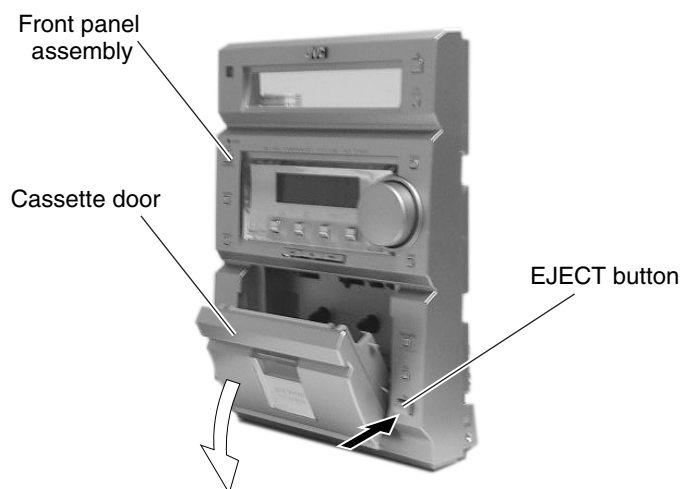

Fig. 21
■ Removing the cassette mechanism assembly (See Fig. 21 & 22)